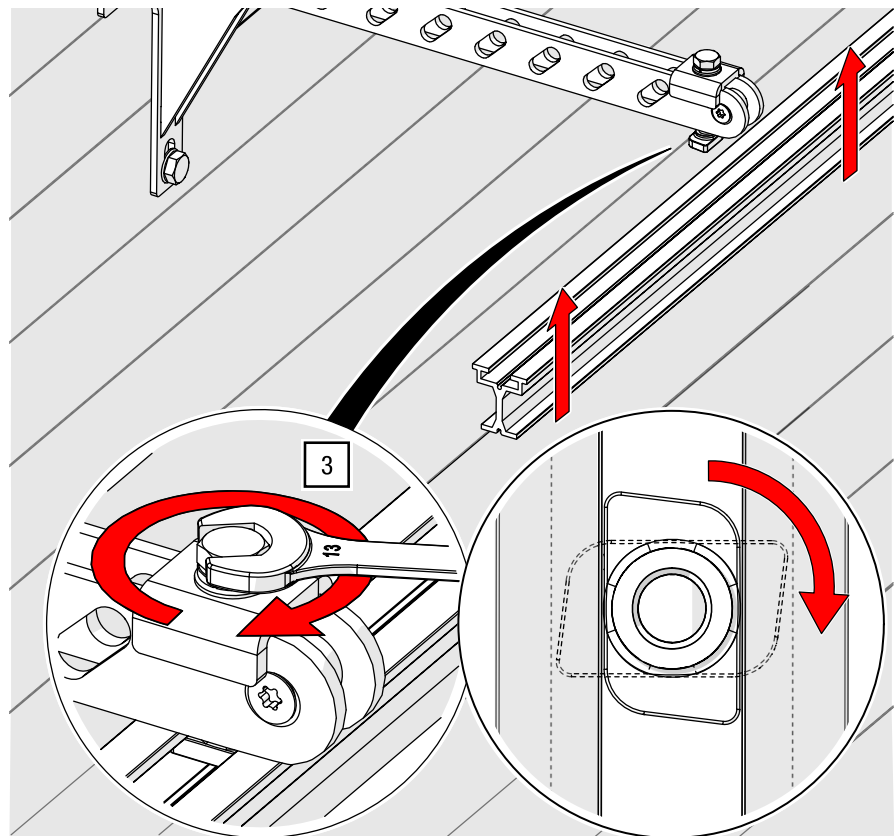

Fig. 69: Wall mount bracket – Mount the track on the wall mount bracket
- Lift the profile to the wall mount bracket and screw both together using a ring spanner or open-end wrench AF 13 and 27 Nm (see Fig. 69).